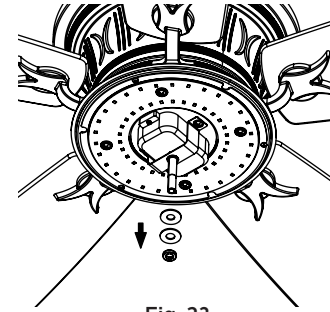

Fig. 23
**Step 2.** Remove and retain the manual nut, metal washer and silicone washer from the threaded rod on the light kit. (Fig. 23)